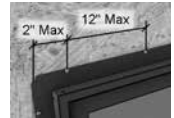

Figure 5
- (Required)** After checking the operation of the window, complete the fastening by placing fasteners in the provided nailing fin holes, spaced a maximum of 12" apart and 2" from the ends (**Figure 5**).